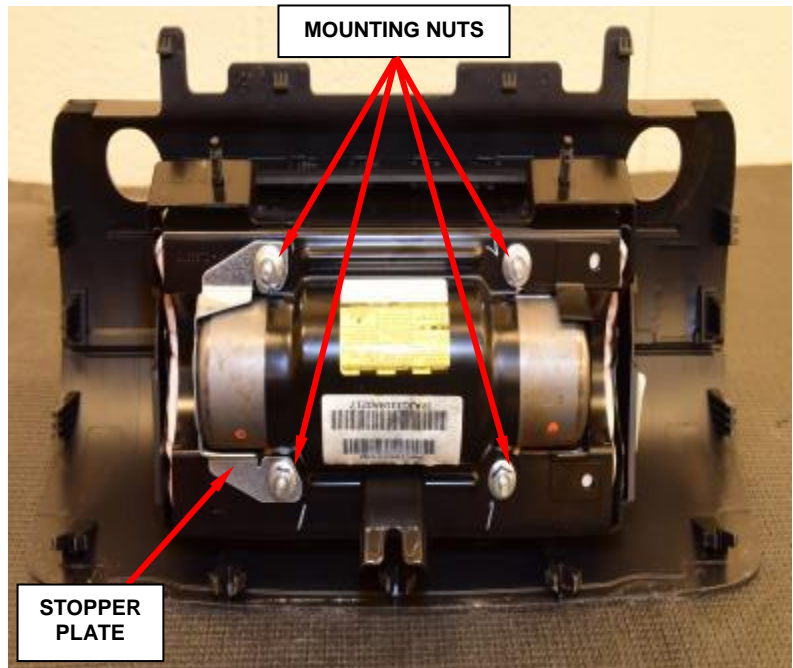

Figure 113 – Mounting Nuts
b. Remove and **discard** the four mounting nuts from the passenger airbag module (Figure 113).